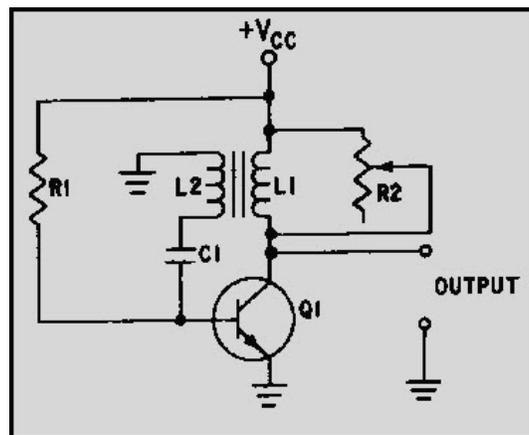

Figure 3-35 Circuit damping
The collector waveform may have an INDUCTIVE OVERSHOOT (PARASITIC OSCILLATIONS) at the end of the pulse. When Q1 cuts off, current through L1 ceases, and the magnetic field collapses, inducing a positive voltage at the collector of Q1. These oscillations are not desirable, so some means must be employed to reduce them. The transformer primary may be designed to have a high dc resistance resulting in a low Q; this resistance will decrease the amplitude of the oscillations. However, more damping may be necessary than such a low-Q transformer primary alone can achieve. If so, a DAMPING resistor can be placed in parallel with L1, as shown in figure 3-35.
When an external resistance is placed across a tank, the formula for the Q of the tank circuit is $Q = R/X_L$, where R is the equivalent total circuit resistance in parallel with L . You should be able to see from the equation that the Q is directly proportional to the damping resistance (R). In figure 3-35, damping resistor R_2 is used to adjust the Q which reduces the amplitude of overshoot parasitic oscillations. As R_2 is varied from infinity toward zero, the decreasing resistance will load the transformer to the point that pulse amplitude, pulse width, and prf are affected. If reduced enough, the oscillator will cease to function. By varying R_2 , varying degrees of damping can be achieved, three of which are shown in figure 3-36, view (A), view (B) and view (C).